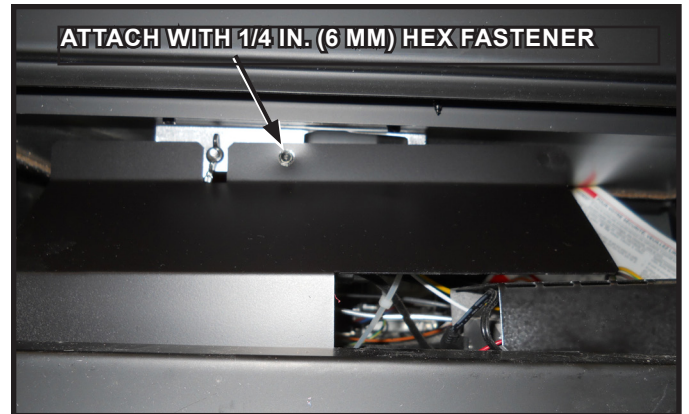

Figure 40 Hex Fastener
- Place vanity panel in appliance on right side of component cavity, and slide left into position as shown in Figure 40.